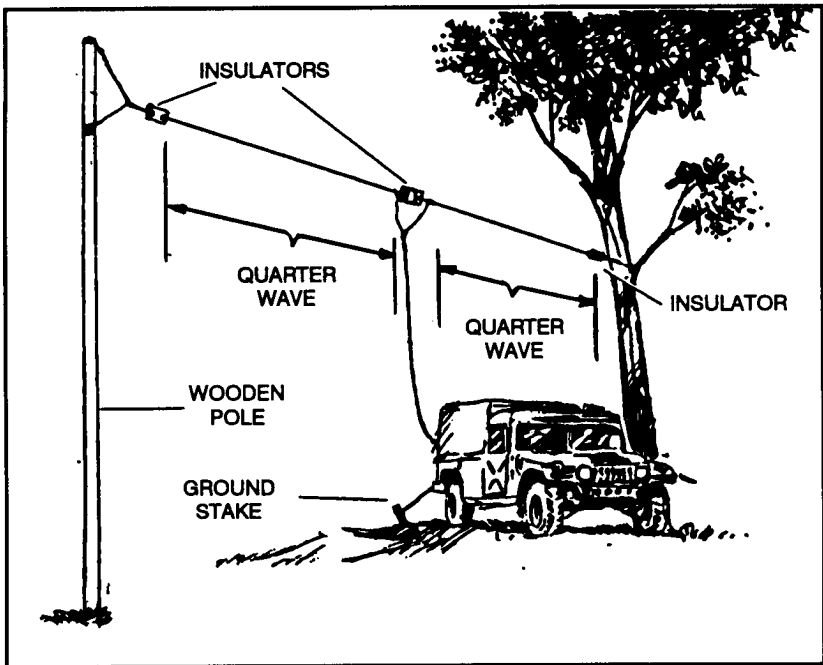

Figure 7-6. Center-fed half-wave doublet antenna.
b. **Center-Fed Doublet Antenna.** The center-fed doublet is a half-wave antenna consisting of two quarter wavelength sections on each side of the center (Figure 7-6). Doublet antennas are directional broadside to their length, which makes the vertical doublet antenna omnidirectional. This is because the radiation pattern is doughnut-shaped and bidirectional.